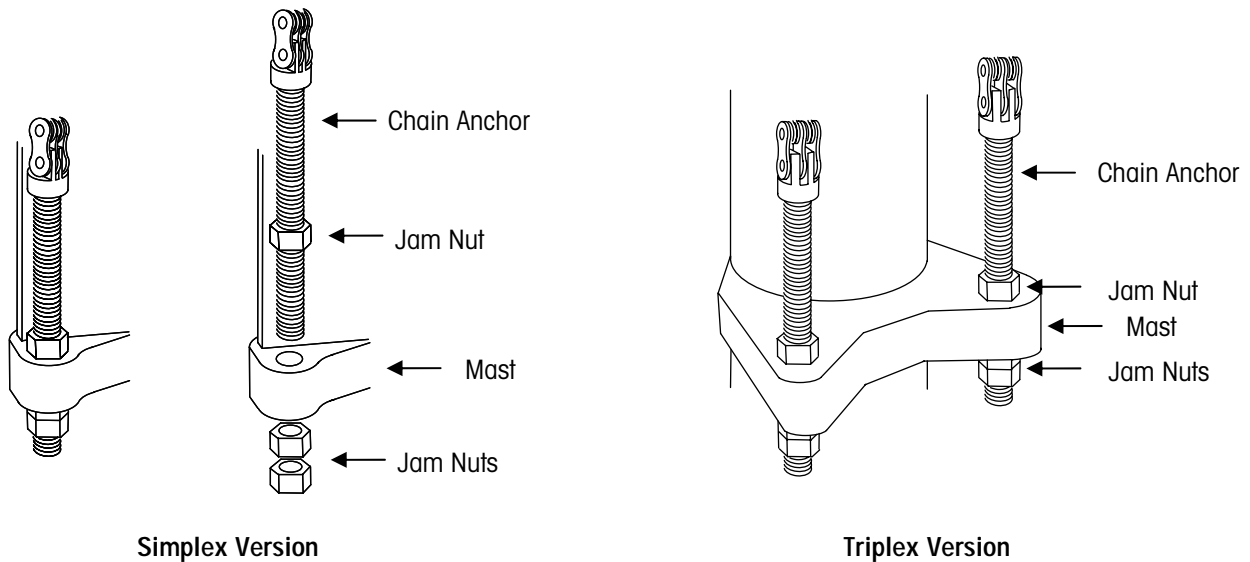

Figure 2-2: Chain Anchor Assembly
7. Disconnect the two chain anchors from the mast by removing the lower jam nut from each anchor (see Figure 2-2). Keep the nuts with the chain anchor to use them for installing the scale carriage.